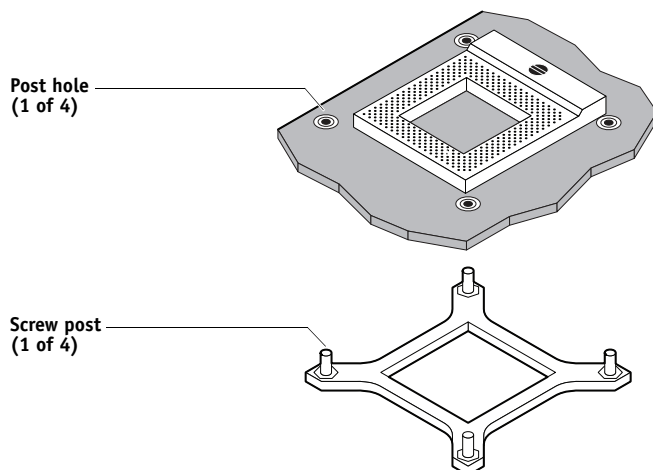

FIGURE 25: Removing/replacing the CPU mounting bracket
6. If you are removing the motherboard in order to replace it with a new one, remove the mounting bracket from the underside of the motherboard (see Figure 25).
4. If needed, install the CPU mounting bracket on the underside of the motherboard (see Figure 25 on page 77).